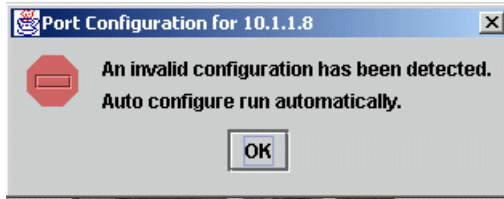

Figure 5-9 FAST MSJ invalid configuration detected
5. If this is the first time the FASTT MSJ is used on the host, or the configuration was deleted or changed since the last use, you see an error message (Figure 5-9 on page 132) stating an invalid configuration.